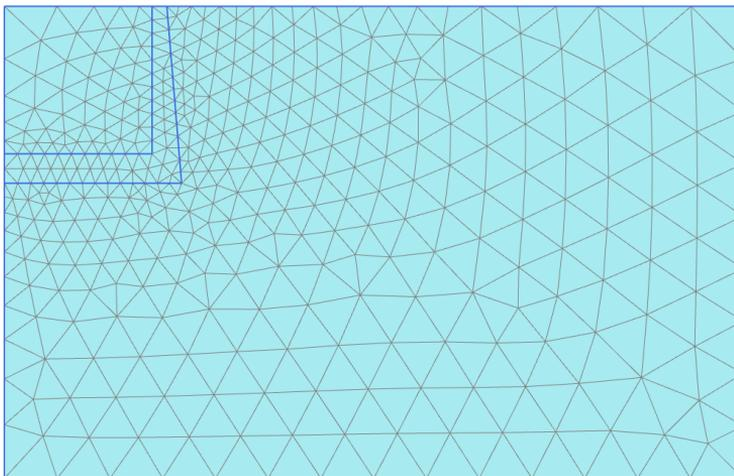

Figure 15.5 The generated mesh
- 🔍 View the generated mesh. The resulting mesh is shown in Figure 15.5.